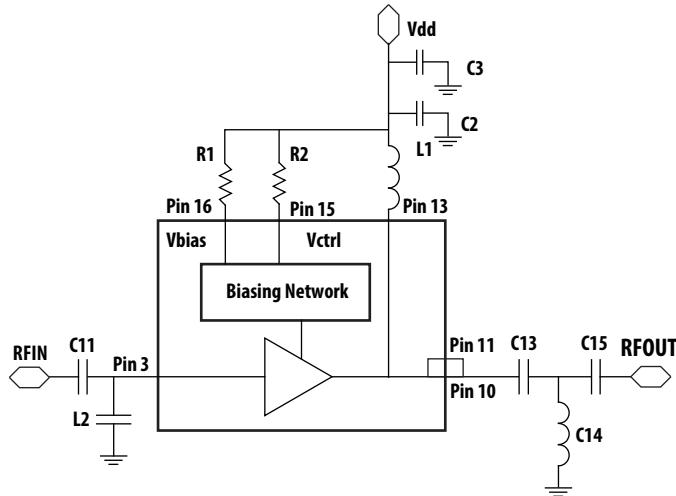

Figure 46. Circuit Diagram
1. V_{bias} and V_{ctrl} can be externally controlled by change external biasing resistors $R1 = R_{bias}$ and $R2 = R_{ctrl}$ (as shown in Fig. 46).
1. Vbias and Vctrl can be externally controlled by change external biasing resistors $R1 = Rbias$ and $R2 = Rctrl$ (as shown in Fig. 46).
1. Vbias and Vctrl can be externally controlled by change external biasing resistors $R1 = R_{bias}$ and $R2 = R_{ctrl}$ (as shown in Fig. 46).